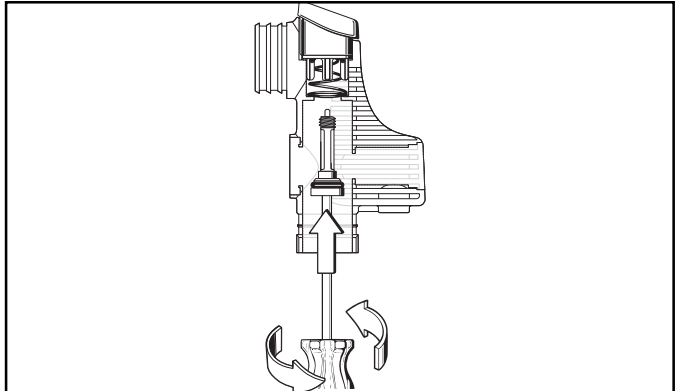

Figure 5
1.3.7 Engage the purge rod with a 3/16" hex key, and use the hex key to guide the purge rod through the open barrel of the inflator body and into the oral inflator button (see Fig. 5). Slowly turn the purge rod clockwise to engage the threads of the oral inflator button, and tighten further until lightly snug. Be careful to avoid cross threading.